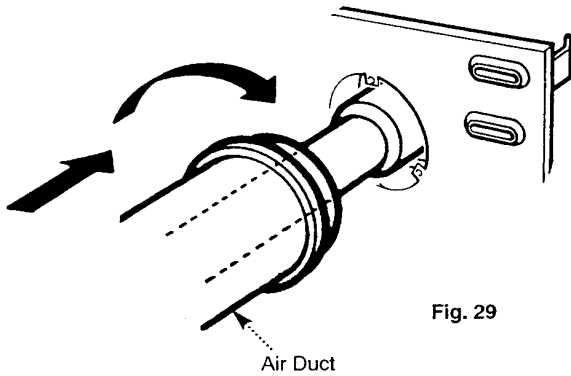

Fig. 29
4. Engage the bayonet slots of the air duct over the location lugs on the back plate opening and press and turn clockwise to secure the air duct to the back plate (Fig. 29).